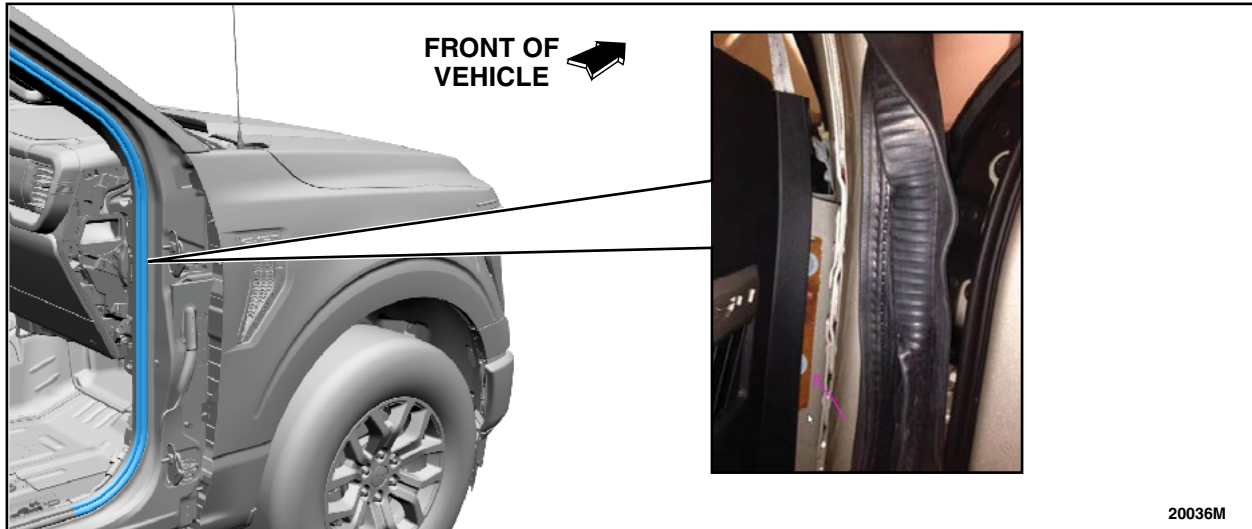

FIGURE 13
25. Inspect the front RH side door weatherstrip for any rips or deformity. See Figure 13.